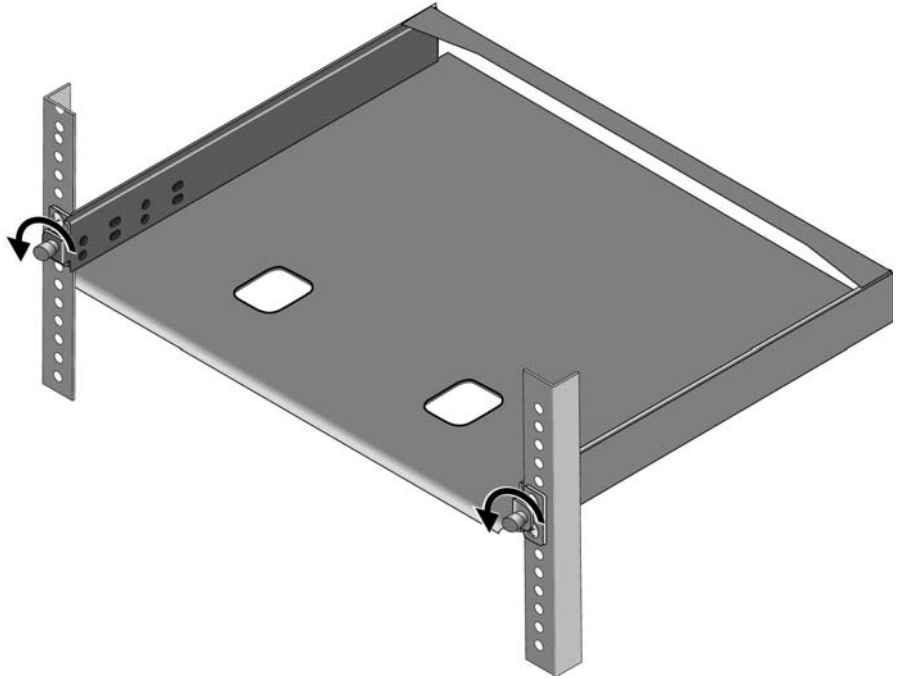

Figure 24. Loosening the Two Thumbscrews on the Front of the AT-RKMT-J15 Bracket
2. Loosen the two thumbscrews on the front of the bracket. Refer to Figure 24.